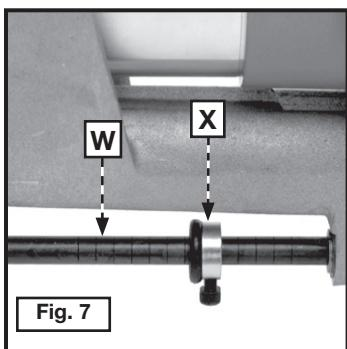

Fig. 7
Measure the lock box at its deepest part, including the thickness of the lock face. Add 1/4" (6.4 mm) for clearance. The depth of cut is controlled by the feed rod (W) Fig. 7 which is marked in 1/4" (6.4 mm) increments. Loosen the collar (X) and move it to the determined depth requirement. Lock it in place.